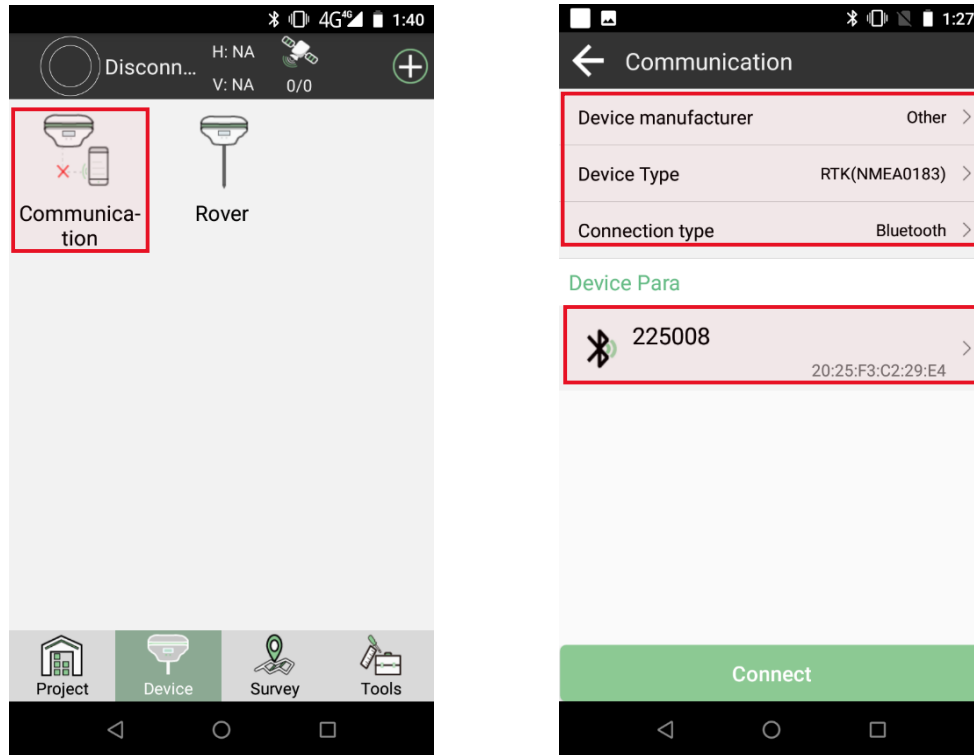

Figure 3.1 Connection
- **Main interface -> Device -> Communication -> Set Device manufacturer, Device Type, Connection Type** as shown in the Figure 3.1.
- Click the Bluetooth logo to connect to P1. The Bluetooth device name is its SN number on the back of P1, find it on **Bluetooth Device list**, select it and connect. For example, in Figure 3.1, we selected a P1 GNSS receiver named with its SN number 225008.